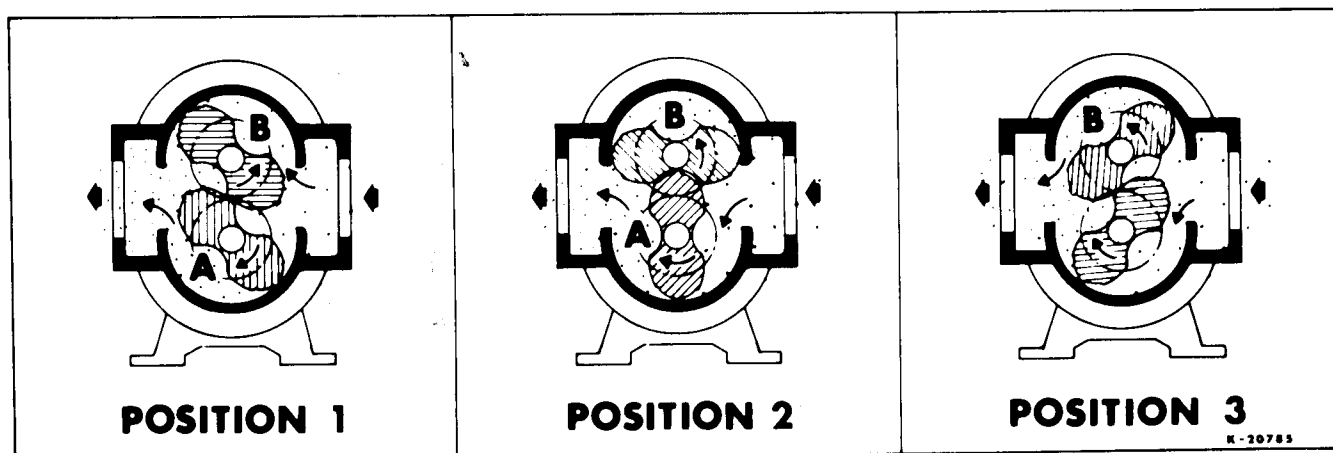

Figure 1 — Flow Through RCS Blower
Operation of the rotary lobe blower is illustrated in FIGURE 1, where air flow is right to left from inlet to discharge with the lower impeller rotating clockwise. In Position 1 it is delivering a known volume (A) to the discharge, while space (B) between the upper impeller and cylinder wall is being filled. Counterclockwise rotation of this impeller then traps equal volume (B) in Position 2, and further rotation delivers it to the discharge in Position 3. At the same time, another similar volume is forming under the lower impeller, and will be discharged when rotation reaches Position 1 again.